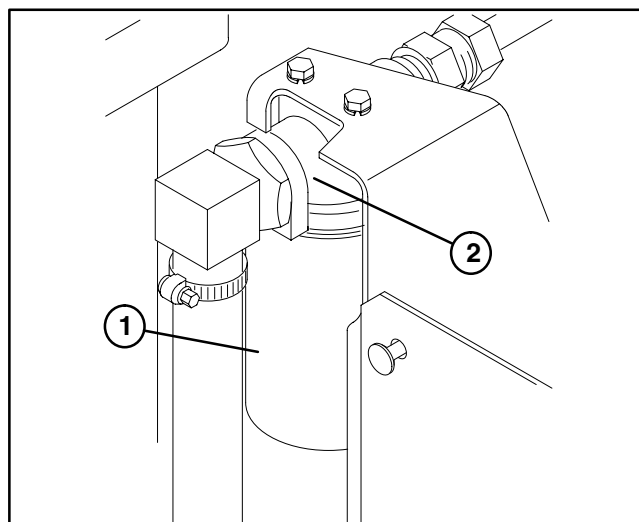

Figure 23
5. Clean area around the hydraulic oil filter. Remove filter from the filter head. Allow oil to flow into a drain pan. Dispose of the oil filter properly (Fig 23 or 24).